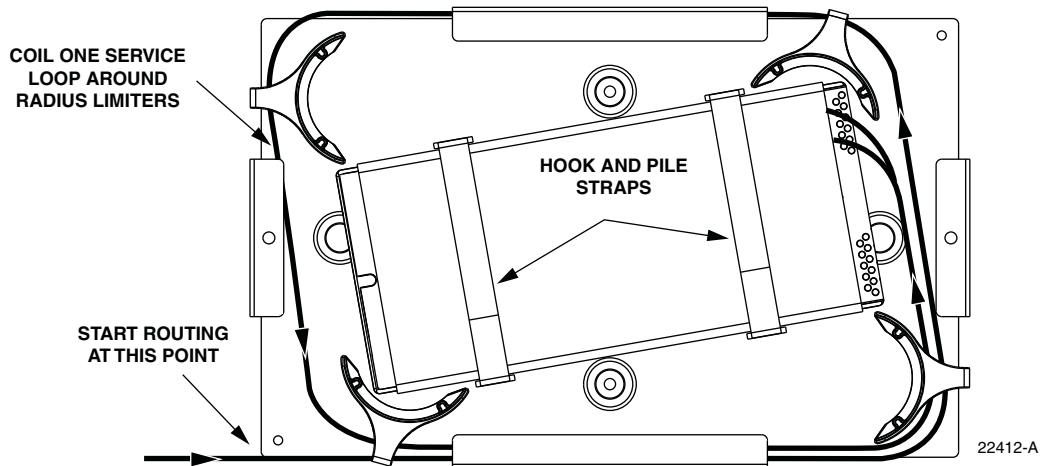

Figure 27. Feeder Splice Tray Replacement
12. To replace the splice tray, route the attached subunits (there should be two service loops) around the splice tray holder radius limiters as shown in Figure 27. Avoid twisting or kinking the fiber subunit tubes. Maintain a 1.5-inch (3.81 cm) minimum bend radius for all non bend-optimized fiber.